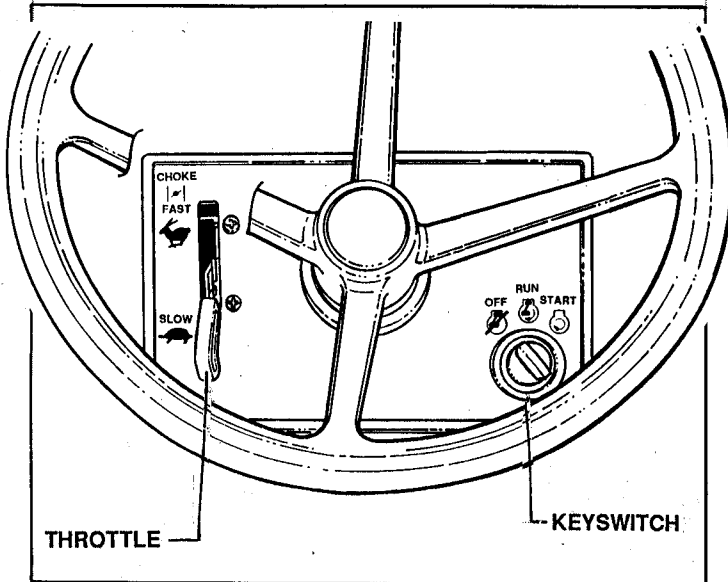

FIGURE 2
ENGINE: STOP ENGINE by turning the KEYSWITCH to "OFF". See Figure 2.
2. **CHOKE ENGINE** for cold starting by moving **THROTTLE CONTROL** to "CHOKE" position. (Little or no choking will be needed when restarting a warm engine). Refer to Figure 2.